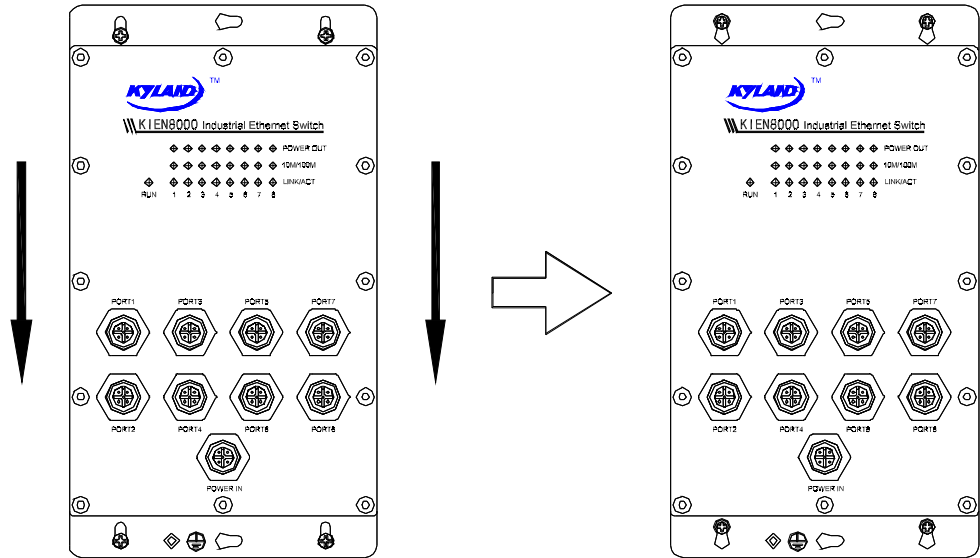

Figure 4-5 Wall Mounting Method
- 3 . After screws are fixed on the wall, mount the switch on the selected position and make 4 screws pass through 4 Φ 6.5 holes on the wall hanging plate. Slide down the switch, as showed in the Figure 4-5. Screw down 4 screws to fasten the switch on the wall or the internal wall of the switch cabinet.